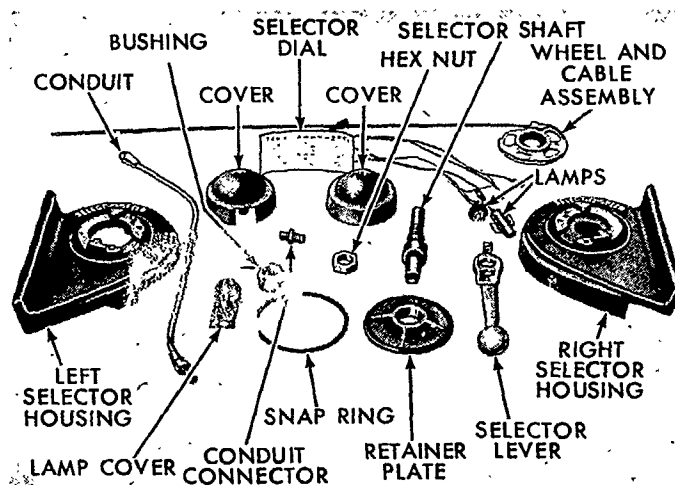

Figure 120
1. Remove the two screws retaining the side covers. Remove the two side covers, lever, spring, lever assembly, and three screws to separate the selector assembly, as shown in Figure 120.